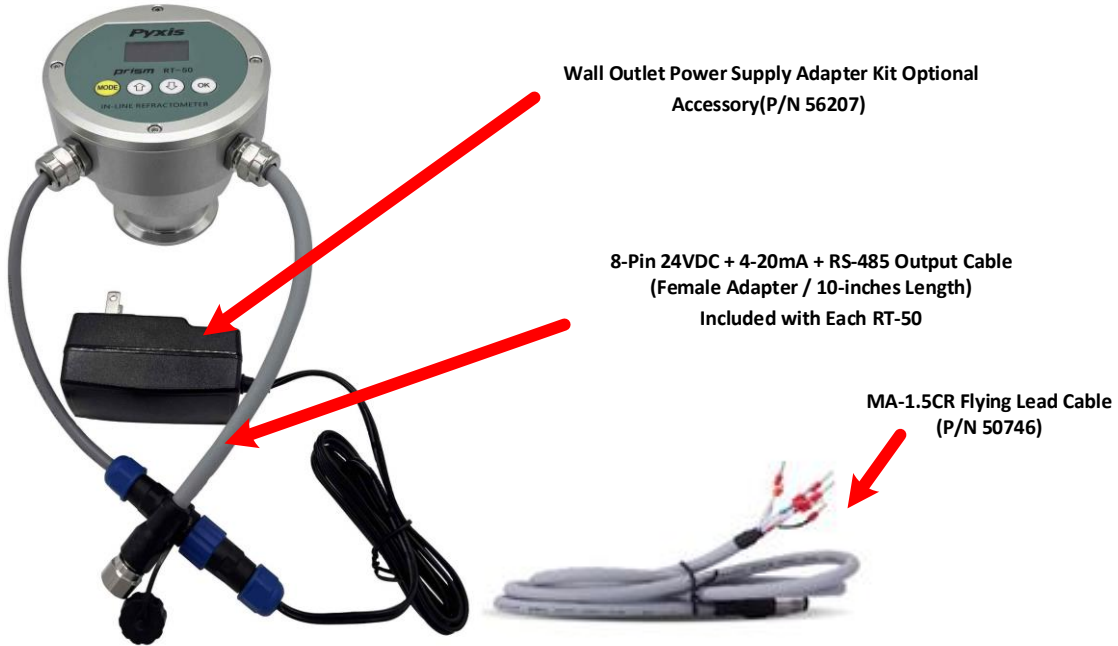

Figure 6. Prism RT-50 with RT-Series Wall Outlet Adapter Kit (P/N: 56207) and MA-1.5CR Flying Lead Cable (P/N: 50746)
The Prism RT-50 unit offers two (2) cable points of attachment, both terminated with a unique connector (Figure 6). The Prism RT-50 may be powered via a direct 24VDC supply source (via 8-Pin cable provided with the Prism RT-50) or by the provided accessory called Prism RT-50 Wall Outlet Power Supply Adapter Kit (P/N 56207). Explanation of each option below: